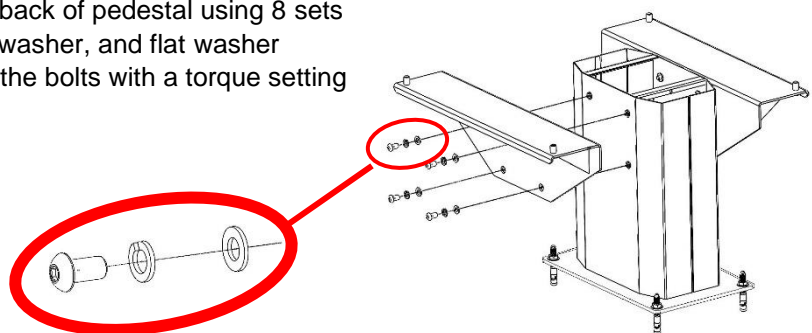

Figure 8 - Attaching Pedestal's mounting plates
7. Attached mounting plate to front and back of pedestal using 8 sets of M10 socket button-head bolt, split washer, and flat washer provided (Figure 8), and then tighten the bolts with a torque setting of 389±10 in-lbs (44±10 N-m).